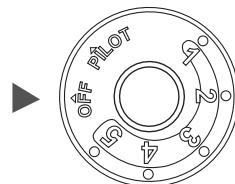
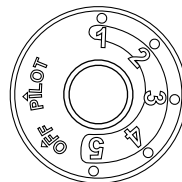

Fig. 22b
Fig. 23b
3. Turn control knob clockwise  to "OFF" position. (See Fig. 22b)
4. Wait (5) minutes to clear out any gas. Then smell for gas, including near the floor. If you smell gas, STOP! Follow "B" in the safety information above. If you don't smell gas, go to the next step.
5. Turn knob counterclockwise  to the "PILOT" position. (See Fig. 23b) Depress control knob.